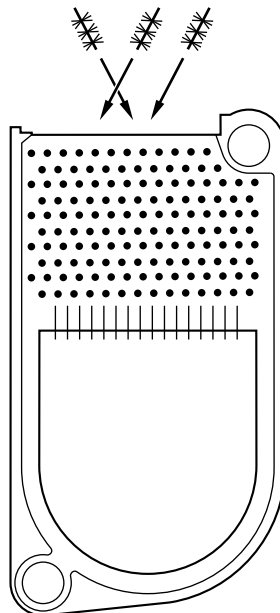

Fig. 21—Removing Soot
13. Remove soot from fireside surfaces by brushing diagonally through flue passages. (See Fig. 21.) Care should be taken so as not to damage target wall with flue brush.